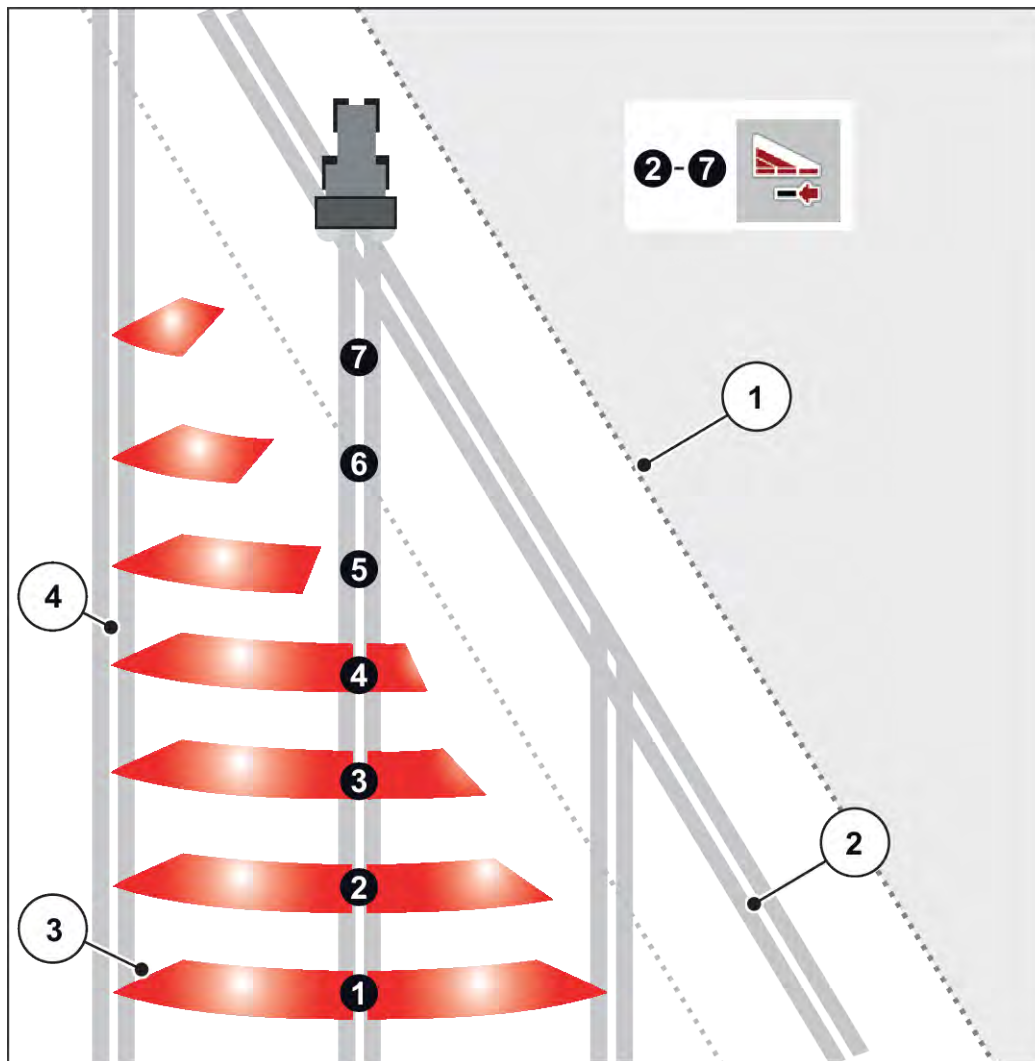

Fig. 38: Automatic section control
- Section control is possible from the outside to the inside or vice versa. See *Fig. 38 Automatic section control*